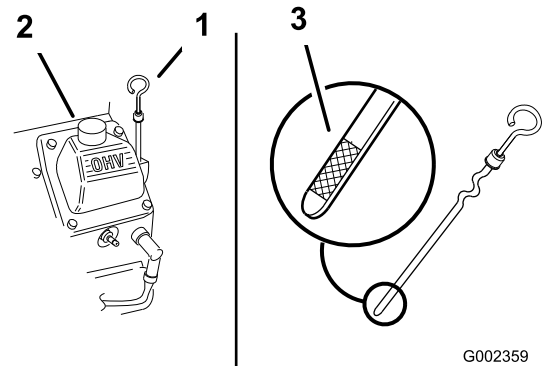

Figure 43
2. Clean around the oil dipstick (Figure 43) so dirt cannot fall into the filler hole and damage the engine.
3. Remove the dipstick, wipe it clean, and install until it is fully seated (Figure 43).
4. Remove the dipstick and check the oil level. The oil level should be between the “F” full and “L” low marks on the dipstick (Figure 43).
5. If the oil level is below the “L” low mark, remove the filler tube cap (Figure 43) and add the specified oil until the level reaches the “F” full mark on the dipstick.